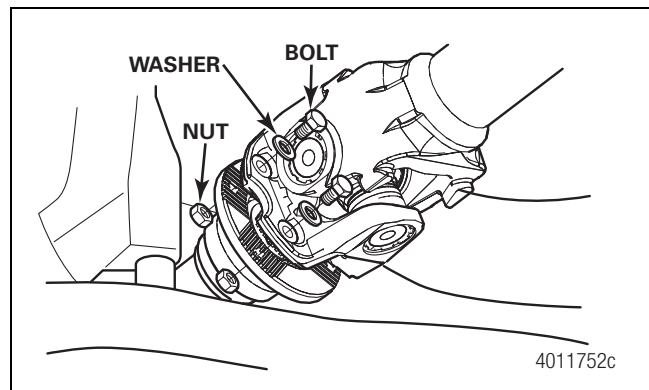

Figure 4.44
3. Remove the fasteners and separate the drive flange from the input drive flange. Support the disconnected end of the driveline. Figure 4.44.